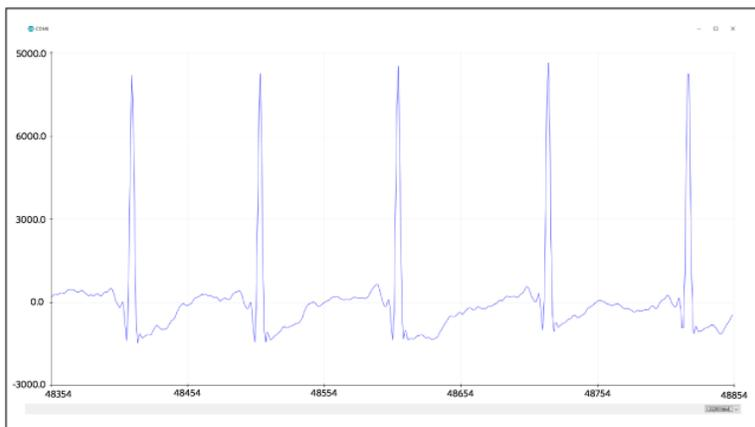

Figure 14. Example output from the MAX30003WING\_Demo\_QRS program.
- If using the MAX30003WING\_Demo\_QRS, the bipotential data begins plotting in the Arduino serial plotter, as shown in Figure 14.